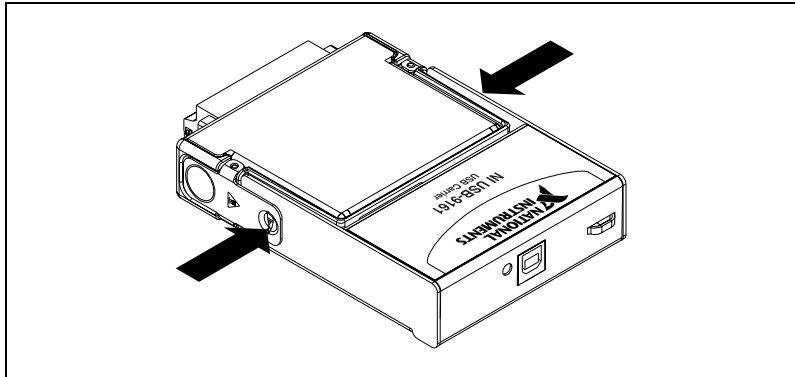

Figure 3. Locking Module into Place
4. Press firmly on the connector side of the CompactRIO module until the latches lock the module into place, as shown in Figure 3.